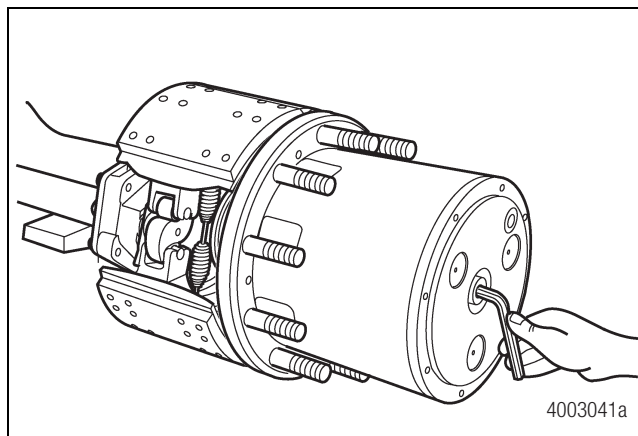

Figure 3.5
3. Use a 12 mm Allen wrench to turn the thrust screw CLOCKWISE to separate the planetary spider from the hub. Figure 3.5.